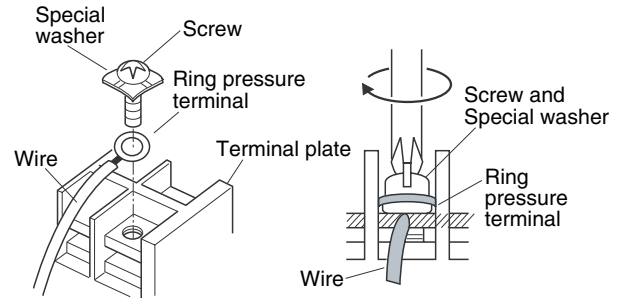

Fig. 1-9
- 4) Place the ring pressure terminal, and replace and tighten the removed terminal screw using a screwdriver. (Fig. 1-9)